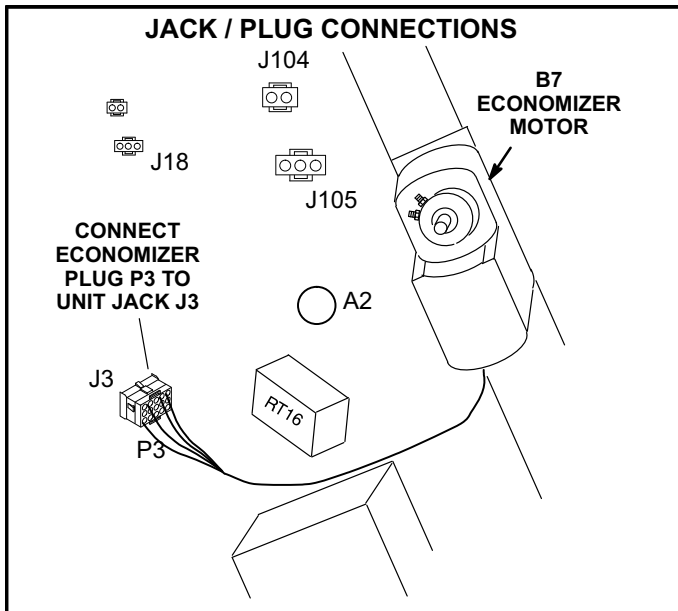

FIGURE 4
- 9- Connect economizer plug P3 to unit jack J3 as shown in figure 4.